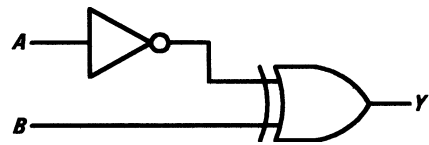

Figure A2.23
46. Redraw Fig. A2.23 using BS symbols. [Page 164]